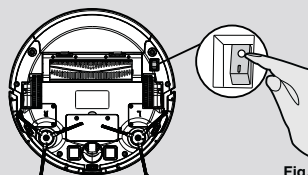

Fig. 9
Switch on the vacuum robot with the On/Off switch on the bottom (1). **[Fig. 9]** Set it down in front of the charging station.
1. Press the ON/OFF power switch on the bottom robot. **[Fig. 9]**
2. Press the ON/OFF power switch on the bottom robot. [Fig. 9]